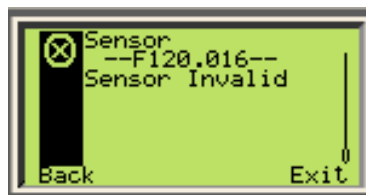

Figure 50: Sensor alarm detail screen
2. The alarm and diagnostic code are shown in the window (Figure 50).